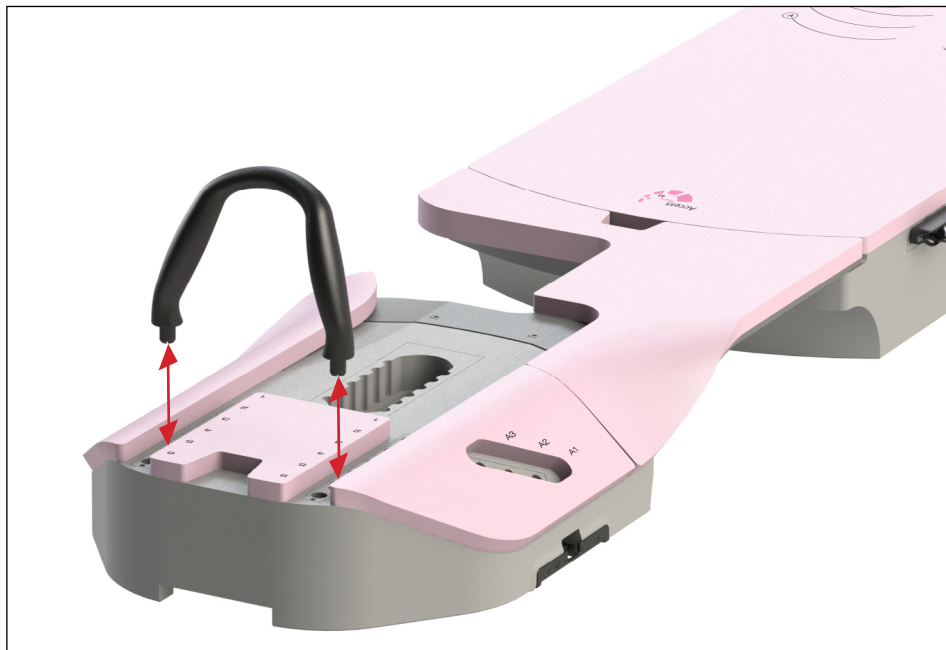

Fig. 15
2. Push down on the Hand Grip until it snaps into the holes. (Fig. 15)